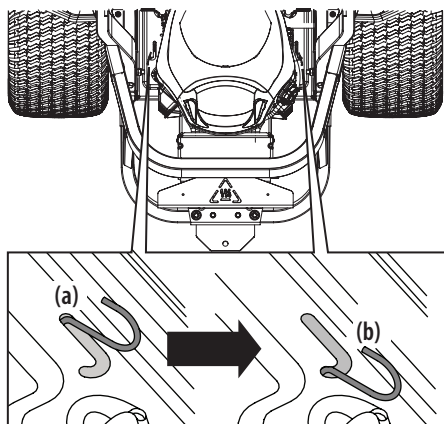

Figure 1
- To engage the transmission bypass rods, pull the rod back (a) and into lower section of "J" slot. Repeat on opposite side. See Figure 1.